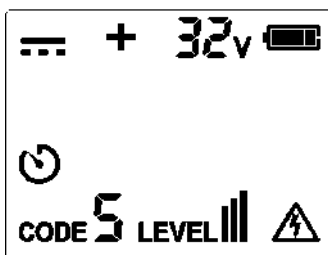

Figure 9.1d DC voltage (>30V) measurement
7. When the voltage is 8 V ~ 480 V DC/AC (50/60 Hz). If the measured voltage is greater than 30 V, then the display is as shown in Figures 9.1d, 9.1e and 9.1f.